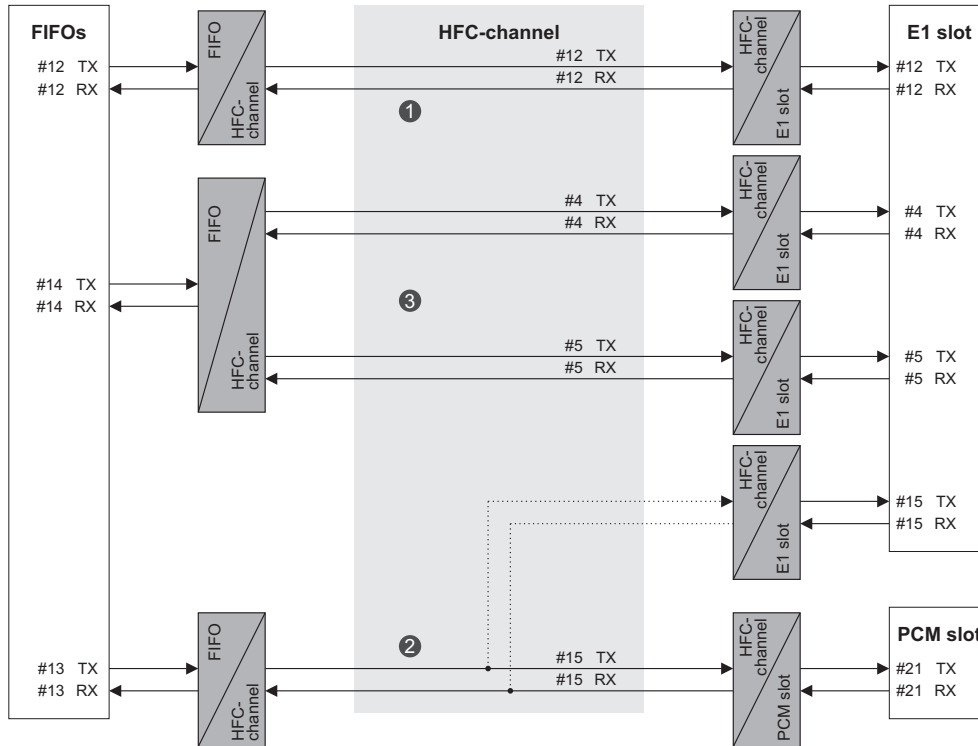

Figure 3.13: FSM example
Figure 3.13 shows an example with three bidirectional connections (❶ 8 kByte/s-FIFO-to-E1, ❷ 8 kByte/s-FIFO-to-PCM and ❸ 16 kByte/s-FIFO-to-E1). The black lines illustrate data paths, whereas the dotted lines symbolize blocked HFC-channels. These are not used for data transmission, but they are necessary to enable the settings.
Table 3.4: List specification of the example in Figure 3.13